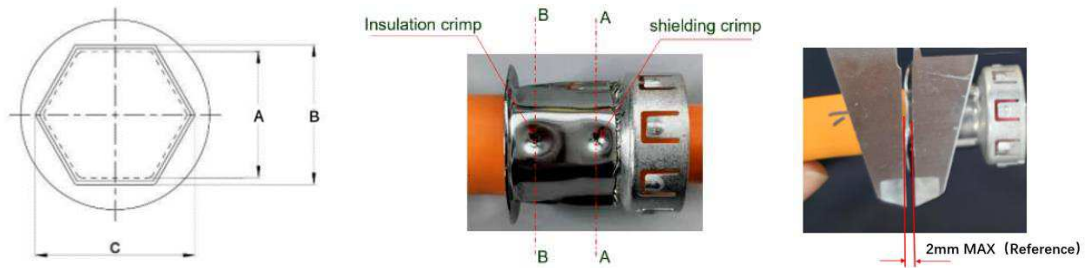
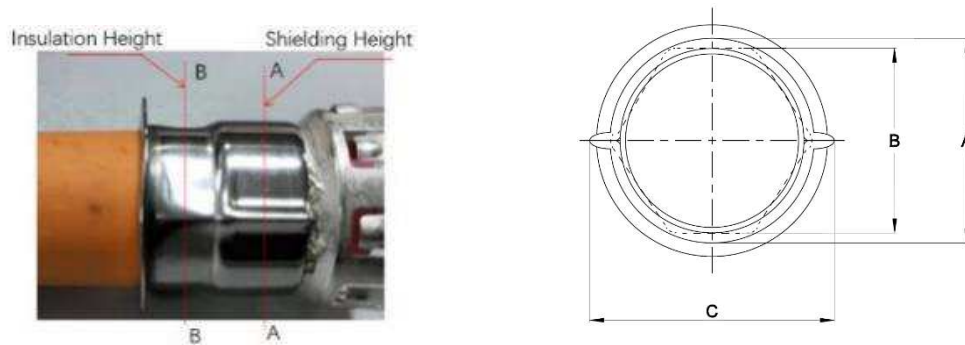

Figure 12: shielding crimp Height and Width (50mm² & 70mm²)
Figure 13: round crimp for shielding and hex crimp for insulation crimp (95mm²)
- After shielding crimp, flange deformation should not exceed 2mm (50/70/95mm² all refer to Fig 12)
- 压接后，法兰盘变形不能超过2mm（50/70/95mm²都参照图12）
Table 14: crimping height of shielding (base on figure 12 & figure 13)